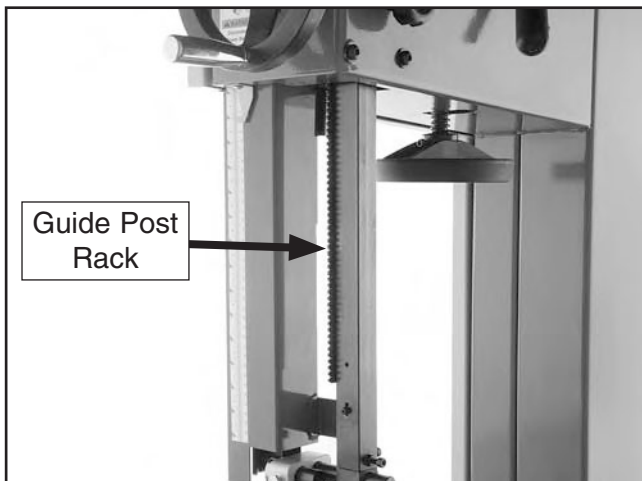

Figure 6. Guide post rack lubrication location.
3. Wipe off any existing grease and sawdust buildup on the guide post rack (see **Figure 6**).